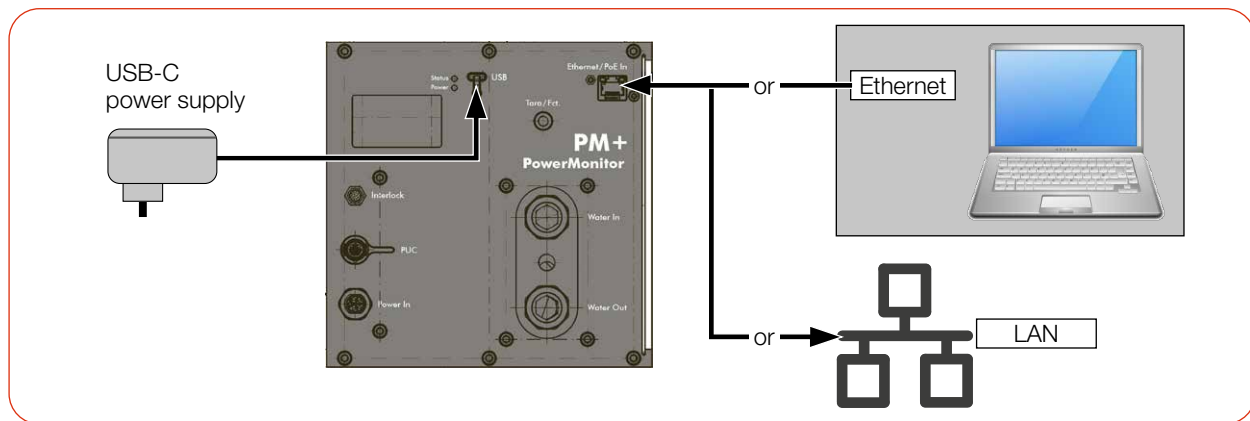

Fig. 8.6: Power supply via USB-C power supply, data transmission via Ethernet
► Connect the power supply according to Fig. 8.6 on page 30.